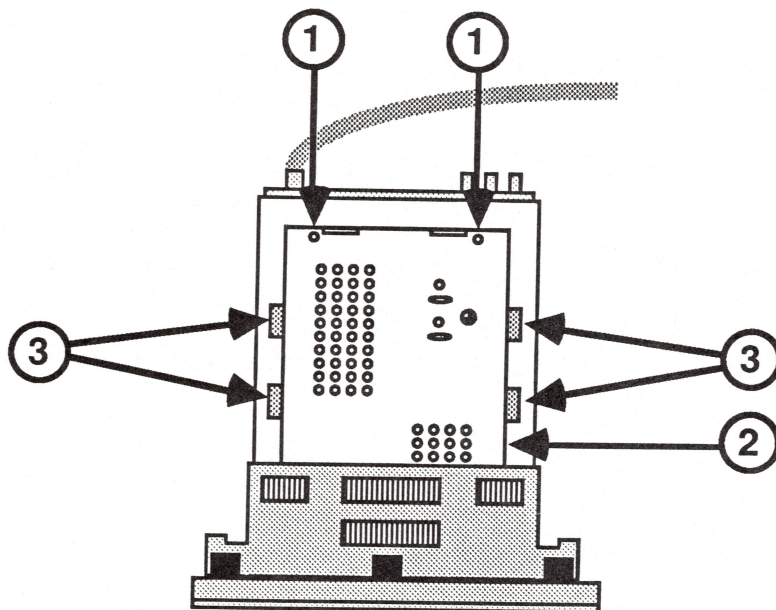

FIGURE 3
5. Remove the two screws (Figure 3, #1) that secure the bottom panel of the main logic PCB.
6. Remove the bottom panel (Figure 3, #2) from the main logic PCB.
8. Replace the bottom panel and secure the two screws (Figure 3, #1) to the main logic PCB. Make sure that the four metal teeth (Figure 3, #3) are aligned before tightening the screws.